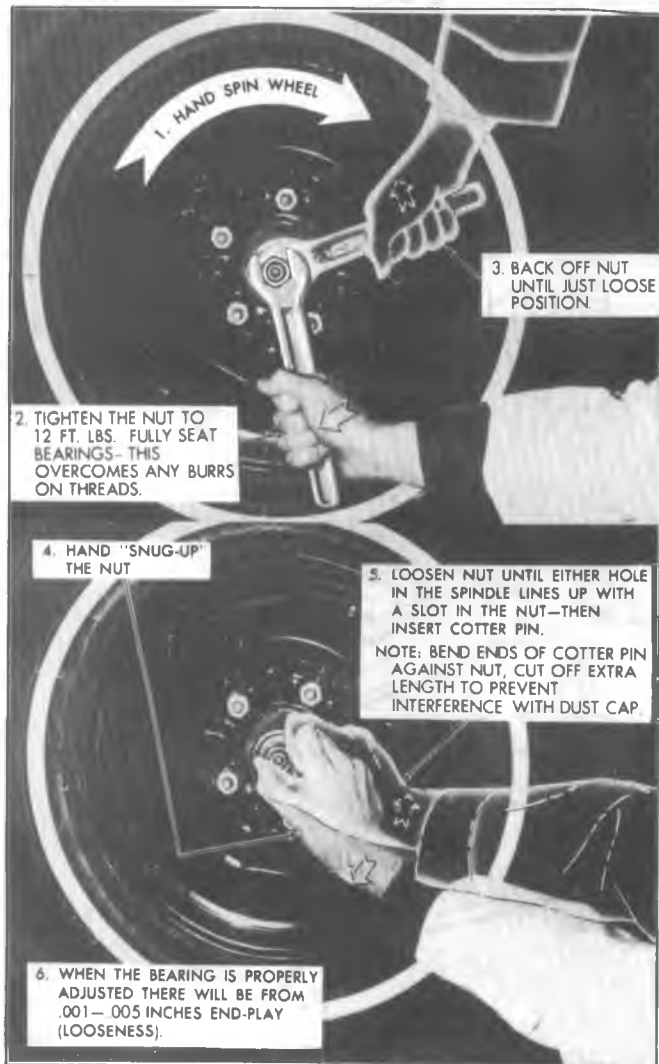

Fig. 3C-3--Wheel Bearing Adjustment
**ADJUSTMENT OF WHEEL BEARINGS (FIG. 3C-3)**
4. Tighten the spindle nut to 16 N·m (12 ft. lbs.) while turning the wheel assembly forward by hand to fully seat the bearings. This will remove any grease or burrs which could cause excessive wheel bearing play later. See Fig. 3C-3.